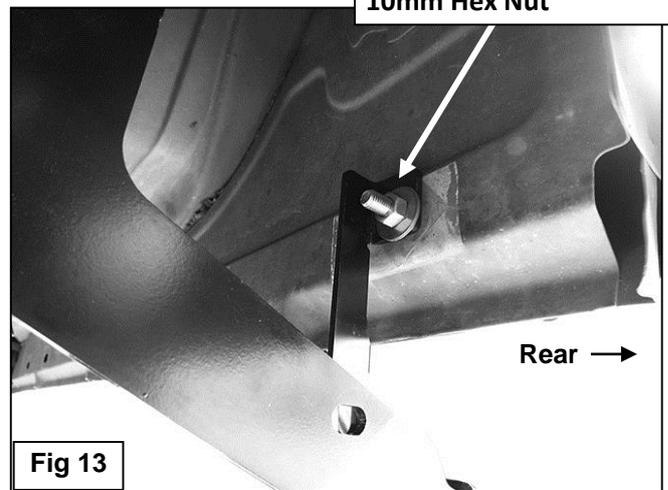

Fig 13
9. Remove the tape covering the hole in the inner rocker panel and install (1) Bolt Plate as described in **Step 5, (Figure 13)**. Select the passenger side rear Support Bracket, (short), **(Figure 8)**. Attach the bent end of the top of the Bracket to the Bolt Plate with (1) 10mm Flat Washer, (1) 10mm Lock Washer and (1) 10mm Hex Nut, **(Figures 13 & 14)**. **NOTE:** Place Support Bracket against the front facing side of the Mounting Bracket. The bent tab on the top of the rear Support Bracket should face the **rear** of the vehicle.